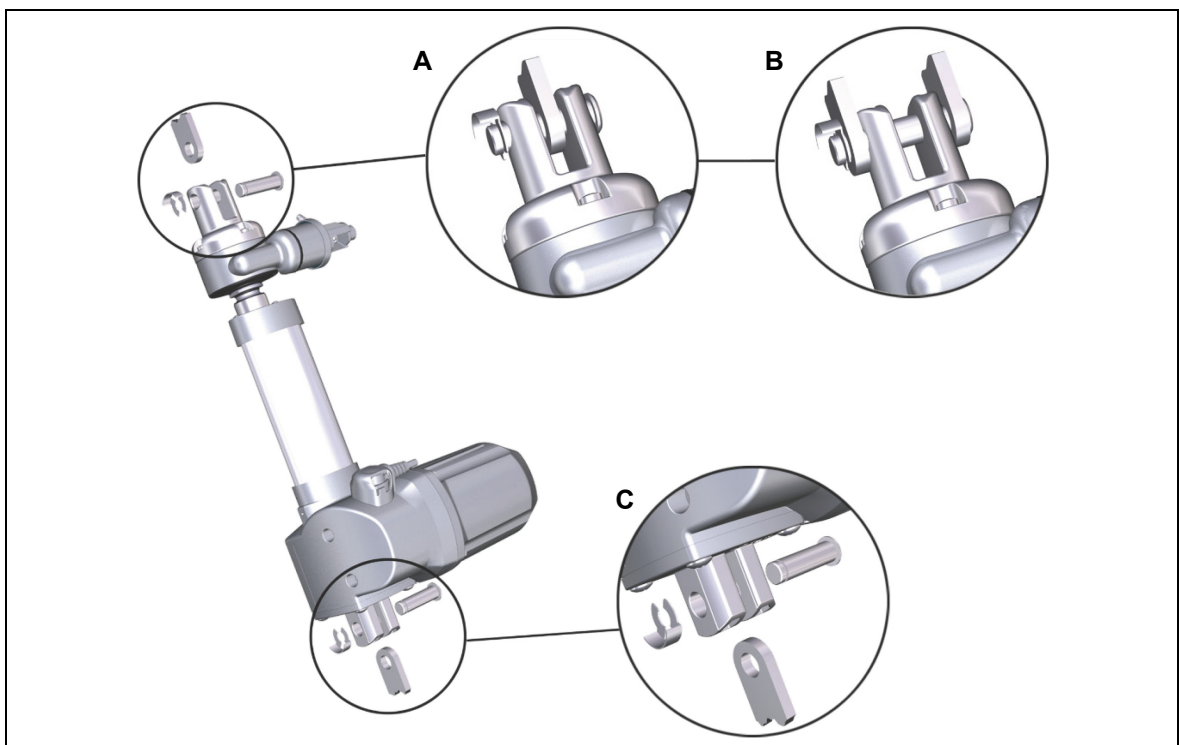

Figure 19 Recommended design of bracket
The brackets should be aligned precisely with each other. We recommend that only one mounting bracket is used on both sides of the drive ( as shown by **A** in Figure 19). When two mounting brackets are used, there is a greater risk that they are not properly aligned, resulting in a tilted drive unit.
The drive must be firmly attached, but there should also be a certain degree of movability at the mounting points. The drive must be mounted so that it is protected in all positions against twisting and bending. You can also use brackets with two mounting holes (as shown by **B** in Figure 19), but these must be exactly aligned so that the release force is not increased.
- ▶ We recommend: an oval slot (as shown by **C** in Figure 19) should have at least 2 millimetres of extra room.